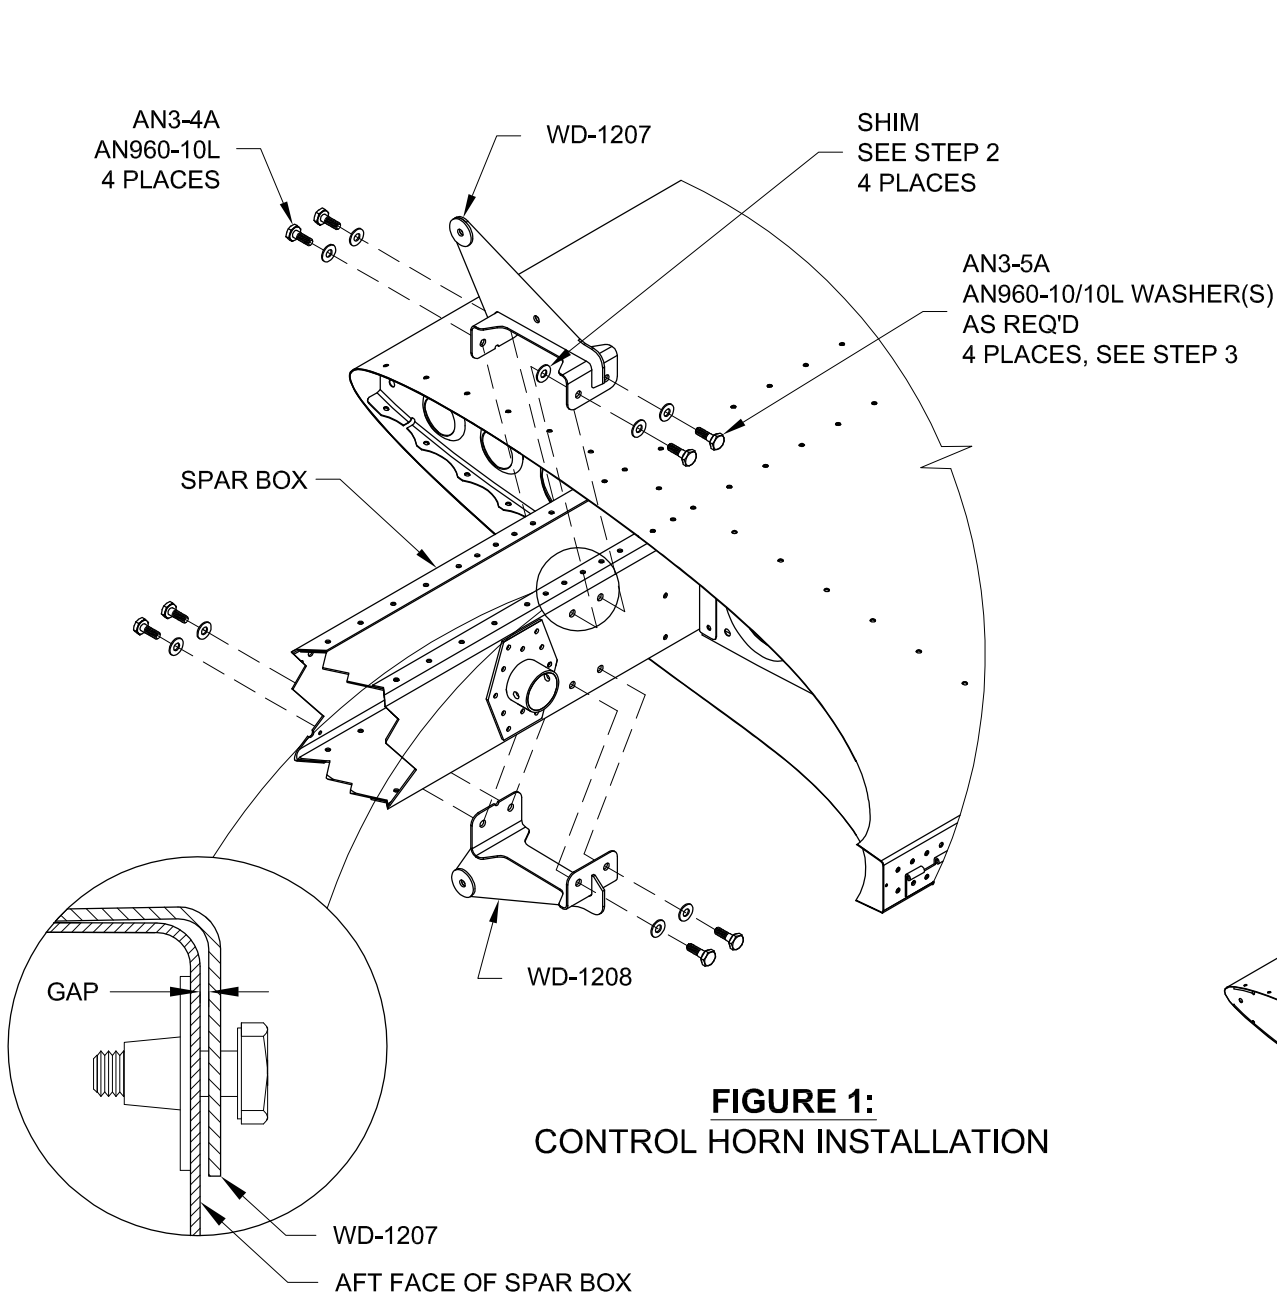

FIGURE 1:
Step 1: Install the WD-1207 Upper Horn flush to the forward side of the Spar Box using the hardware called out in Figure 1.
Step 2: Shim the gap, if any, between the aft face of the Spar Box and the flange of the WD-1207. See Figure 1 detail. Note shim thickness.